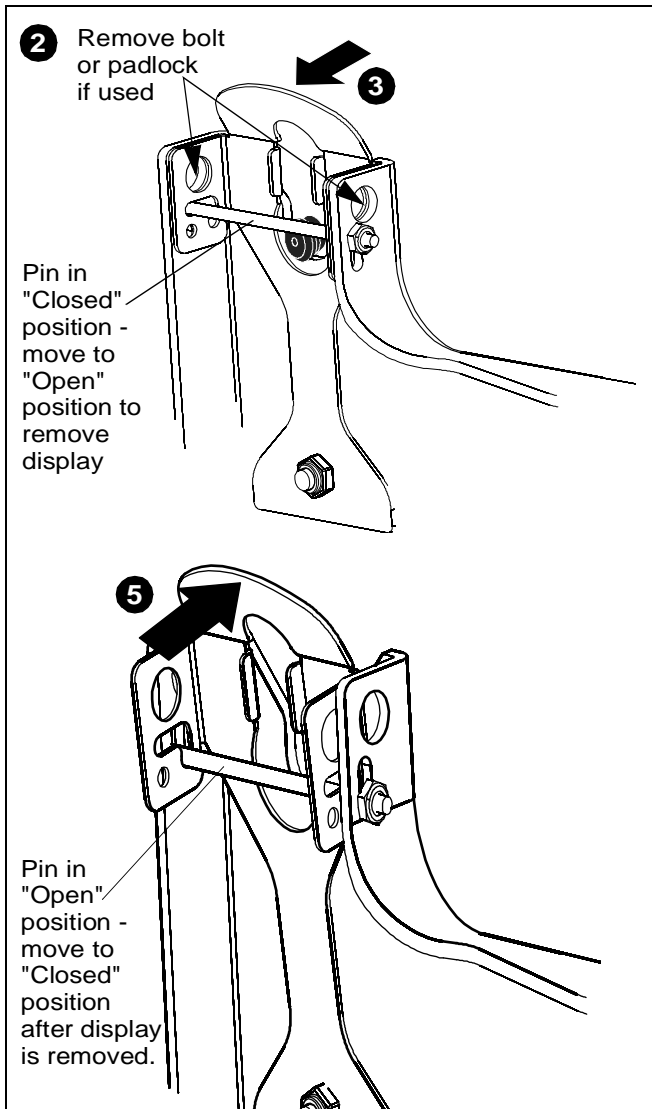

Figure 4
2. Remove bolt or padlock from faceplate (if used). (See Figure 4)
3. Pull back on flag on upper mounting hole and press pin down into "Open" position. (See Figure 4)
5. Lift up on pin and place flag back against faceplate to return it to "Closed" position. (See Figure 4)